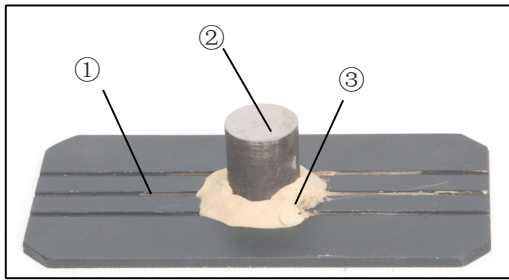
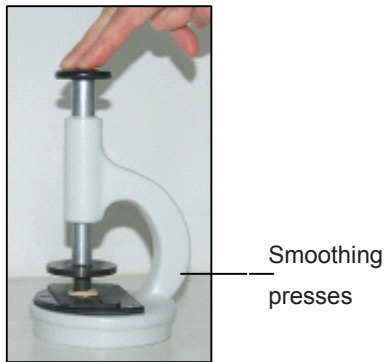

Fig.25
Fig.26
1. Fix the specimen (fig.25②) to the sample board (fig.25①) by plasticine (fig.25③), be sure that the specimen surface is parallel to the sample board. It is conveniently to use smoothing presses to flatten the specimen. (Fig.26).